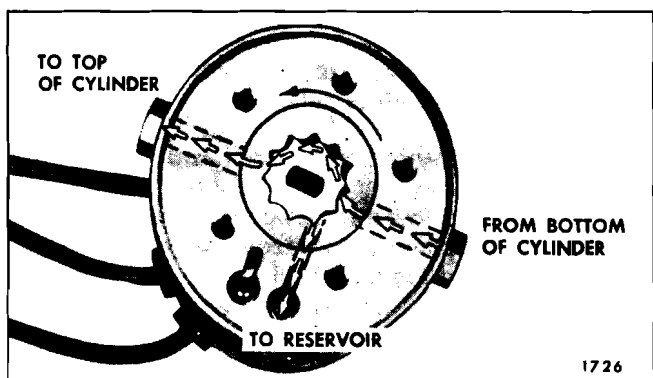

Fig. 13-62—Operation of Pump to Lower Top
2. Lowering the Top. When the green motor lead is energized the motor drive shaft turns the rotors counterclockwise as indicated by the large arrow in Figure 13-62. The action of the pump rotors forces the fluid under pressure to the top of each cylinder. This action causes the fluid below the piston in each cylinder to be forced into the pump which recirculates the fluid to the top of each cylinder. The surplus hydraulic fluid due to piston rod displacement flows into the reservoir.